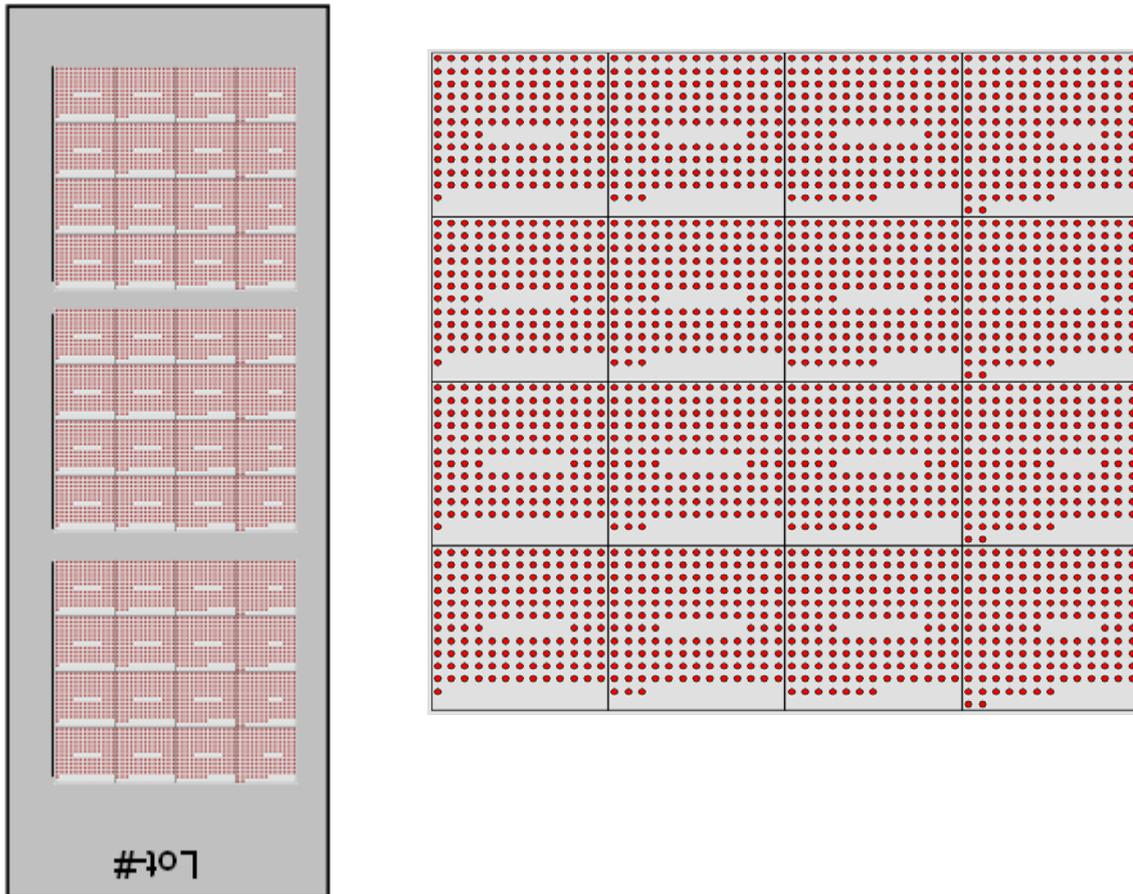

Figure 3: Exemplaric view for a subarray (left) consisting of 16 individual blocks. Each block (right) is calculated by number of rows vs. number of columns
For high-density peptide microarrays, each peptide subarray (SA) is printed in individual blocks (see Figure 3, details in Figure 4). Using the provided .gal-file, the
All peptide microarrays produced by JPT have an identical layout concerning active area and spotted surface. Although the content of the microarrays varies the overall layout and dimensions are the same (see Figure 3).